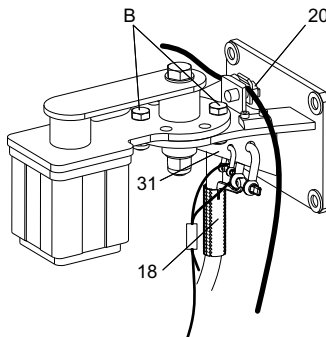

Fig. 23 Top fixation bracket with lifting and safety wires and cable sock
22. Mount the cable sock (18, fig. 23) to the top fixation bracket using the shackle, and pull the motor cable through it, to the desired position. See fig. 23. The power supply cable must be slightly tightened.